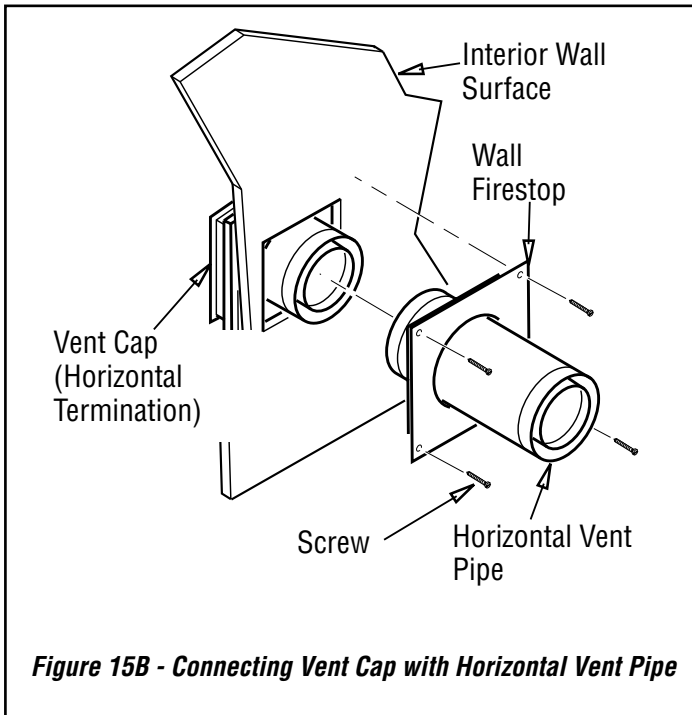

Figure 15B - Connecting Vent Cap with Horizontal Vent Pipe
6. **Connecting Vent Cap with Horizontal Vent Pipe:** Slide wall firestop over vent pipe before connecting horizontal run to vent cap (see **Figure 15B, Page 20**).